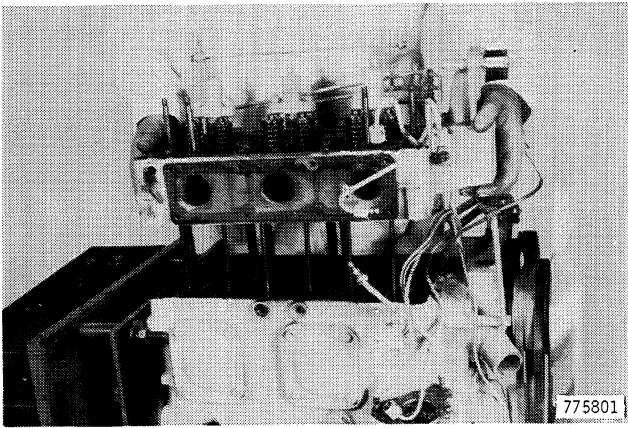

Figure 55
30. Lift the cylinder head from the engine, Figure 55.